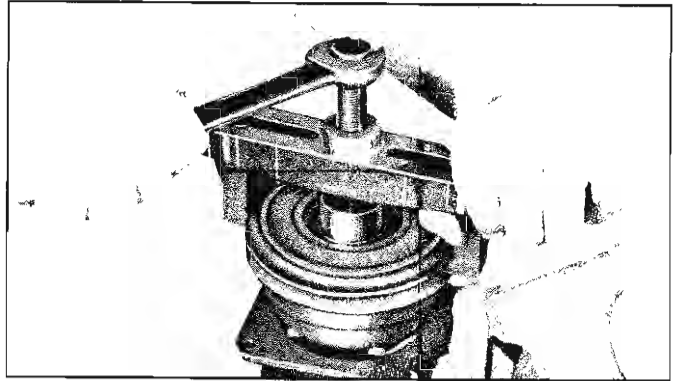

Fig. 18—Removing Pulley
4. Place puller pilot J-9395 over the compressor shaft and pull off the pulley assembly using J-8433 pulley puller (fig. 18).